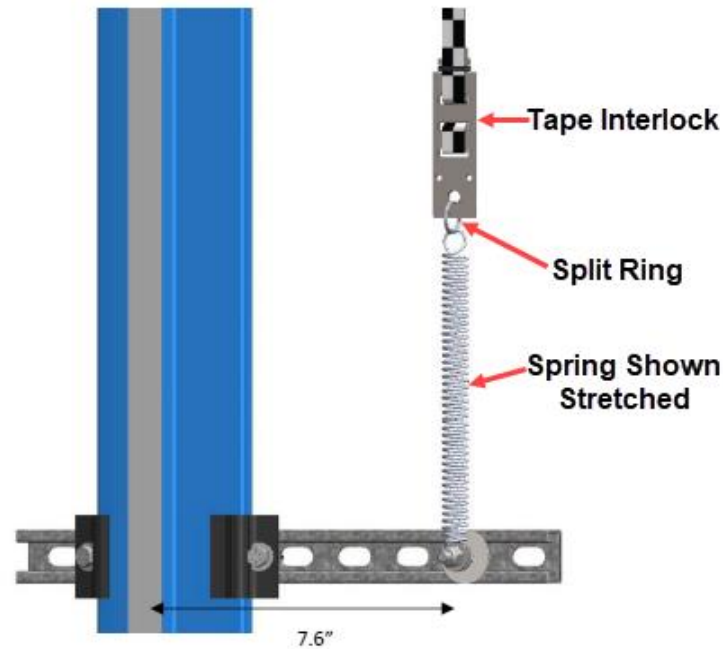

Figure 101: Lower Tape Mount Assembly
3. Position the Lower Tape Mount Assembly 7.6" from the surface of the guide rail to the center of the 3/8" bolt (See Figure 101).
6. Connect the spring to the tape interlock bracket using the split ring (See Figure 101).